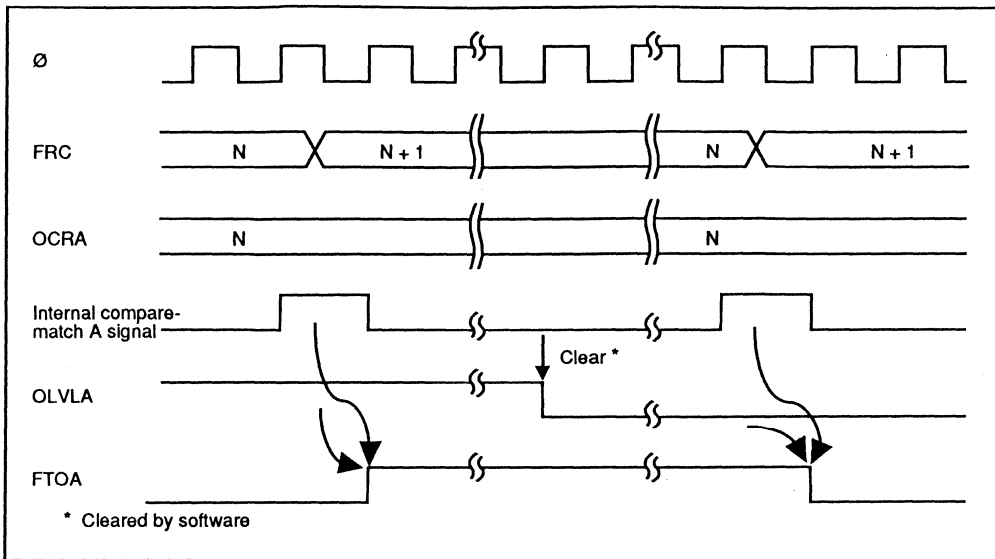

Figure 6-10. Timing of Output Compare A
(3) Output Timing: When a compare-match occurs, the logic level selected by the output level bit (OLVLA or OLVLB) in TOCR is output at the output compare pin (FTOA or FTOB). Figure 6-10 shows the timing of this operation for compare-match A.